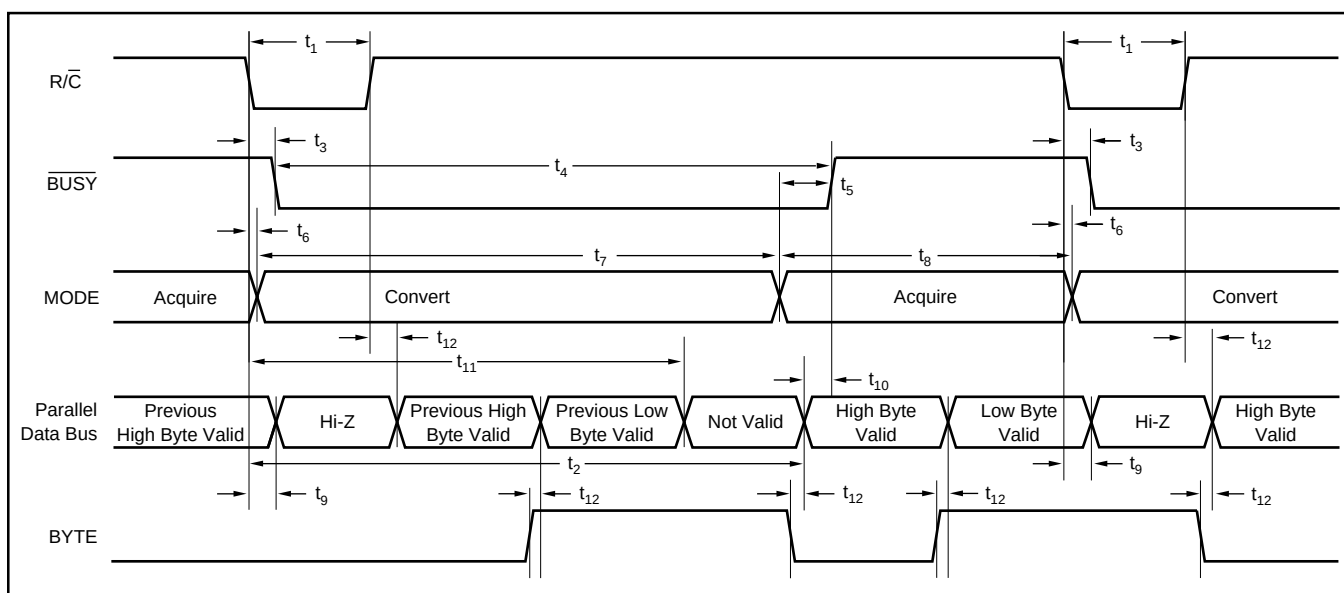

FIGURE 2. Conversion Timing with Parallel Output ($\overline{\text{CS}}$ and DATACLK tied LOW, $\overline{\text{EXT/INT}}$ tied HIGH).
The ADS7806 will begin tracking the input signal at the end of the conversion. Allowing 25 μ s between convert commands assures accurate acquisition of a new signal. Refer to Tables II and III for a summary of $\overline{CS}$, $R/\overline{C}$, and $BUSY$ states, and Figures 2 through 6 for timing diagrams.
NOTE: (1) See Figures 2 and 3 for constraints on data valid from conversion 'n – 1'.
After conversion 'n' is completed and the output registers have been updated, $\overline{\text{BUSY}}$ (pin 24) will go HIGH. Valid data from conversion 'n' will be available on D7-D0 (pins 9-13 and 15-17). $\overline{\text{BUSY}}$ going high can be used to latch the data. Refer to Table V and Figures 2 and 3 for timing constraints.
After conversion 'n' has been initiated, valid data from conversion 'n - 1' can be read and will be valid up to $12\mu\text{s}$ after the start of conversion 'n'. Do not attempt to read data beyond $12\mu\text{s}$ after the start of conversion 'n' until $\overline{\text{BUSY}}$ (pin 24) goes HIGH; this may result in reading invalid data. Refer to Table V and Figures 2 and 3 for timing constraints.